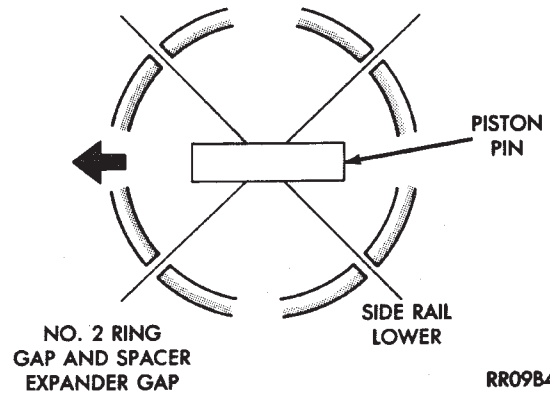

Fig. 84 Piston Ring End Gap Position
- (10) Position piston ring end gaps as shown in (Fig. 84).
- (11) Position oil ring expander gap at least 45° from the side rail gaps but **not** on the piston pin center or on the thrust direction.
(1) Before installing pistons and connecting rod assemblies into the bore, be sure that compression ring gaps are staggered so that neither is in line with oil ring rail gap.
(2) Before installing the ring compressor, make sure the oil ring expander ends are butted and the rail gaps located as shown in (Fig. 84).